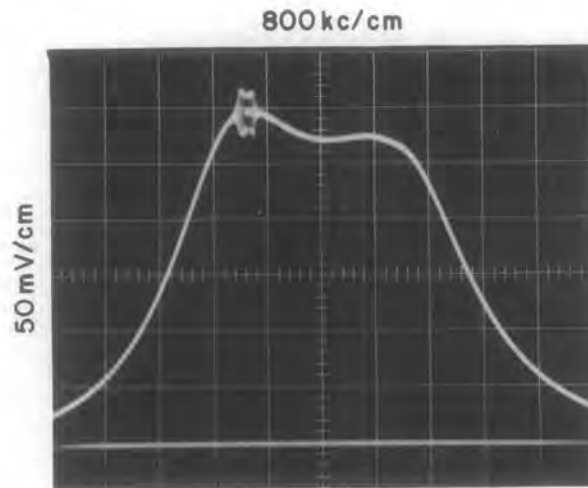

Figure 4-28. Typical Response, 60-300 mc Tuner RF Stage, 100 mc Response
- (1) Perform steps (1) through (7) of paragraph 4.7.6.3—except in step (1), the sweep generator output should be connected to J1 of the RS-111-1B-12B.
- (2) Adjust C5 for a symmetrical response as shown in Figure 4-28.